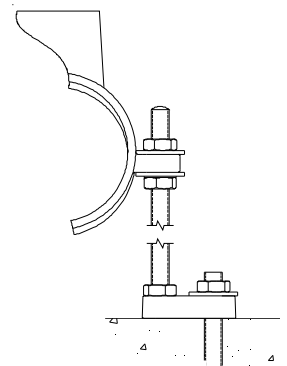

Fig. 8
8. With assembly positioned upright, secure the anchor stabilizer to the fitting using the anchor foot assembly instructions and hardware provided. Ensure the anchor foot sits level on the floor and nuts are tightened for each carrier. See Fig. 8